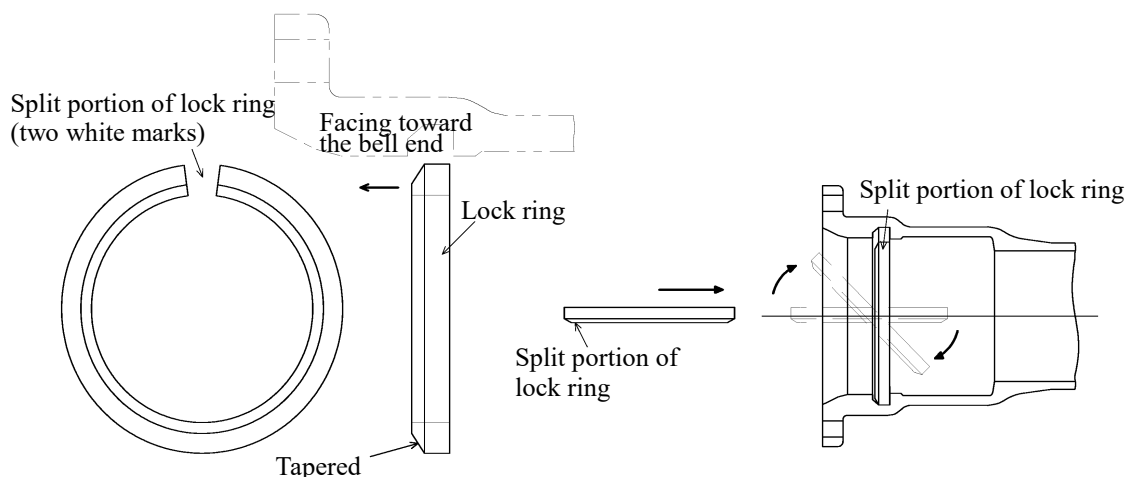

Figure-5 How to install the lock ring into socket
(1) As illustrated in Figure-5, install the lock ring so that the tapered side will face toward the spigot.